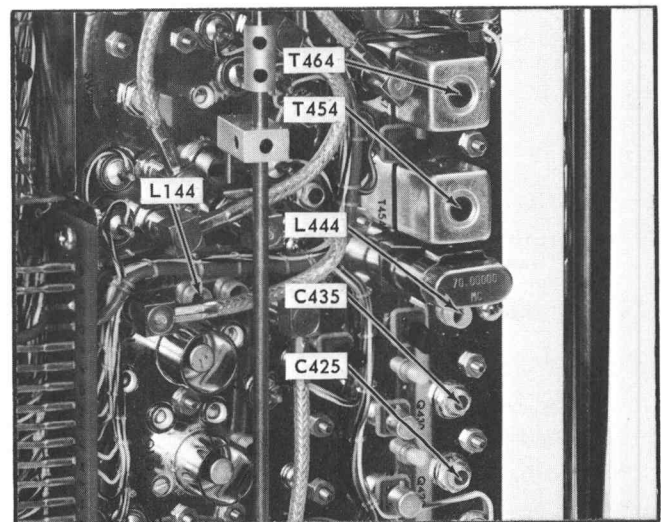

Fig. 6-15. Location of Narrow-Band IF Amplifier adjustments (Step 8).
d. Peak up C425, C435 and T454 and T464 (see Fig. 6-15) for maximum signal amplitude.
e. Turn the core of L444 (see Fig. 6-15) counterclockwise until the oscillator stops oscillating. Then, turn the core of L444 clockwise and set it about 1/4 of a turn past the point at which the oscillator starts.